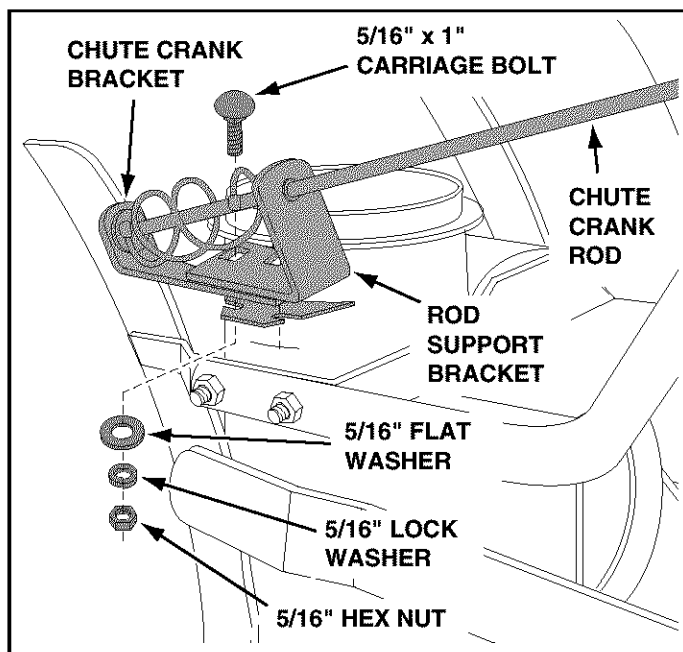

FIGURE 27 LEFT SIDE VIEW
- Attach the chute crank rod assembly brackets to the plastic bracket on the left side of the thrower housing. Align the chute crank bracket beneath the rod support bracket and assemble both to the plastic bracket using two 5/16" x 1" carriage bolts, 5/16" flat washers, 5/16" lock washers and 5/16" hex nuts. **Do not tighten yet.** See figure 27.
- Position the crank rod spiral so that it does not rub against the bottoms of the notches in the chute flange. **Tighten** the nuts. See figure 27.